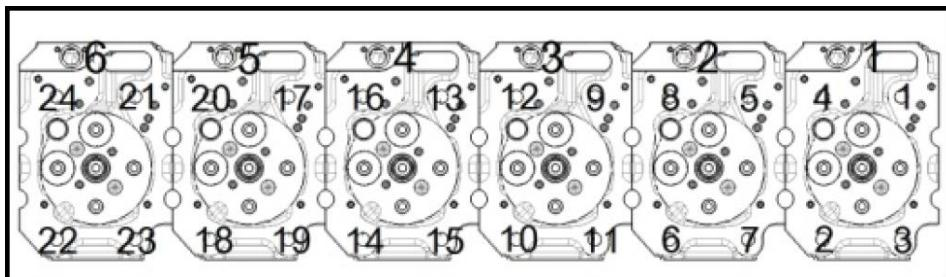

Figure 46.
3. Remove the cylinder secondary bolts (Figure 46, Item 3). Remove the washer (Figure 46, Item 5), Clamping blocks (Figure 46, Item 6 & 11) and end plate (Figure 46, Item 7).
4. Loosen and remove the cylinder head main bolts in the following order 1-24 (Figure 46).